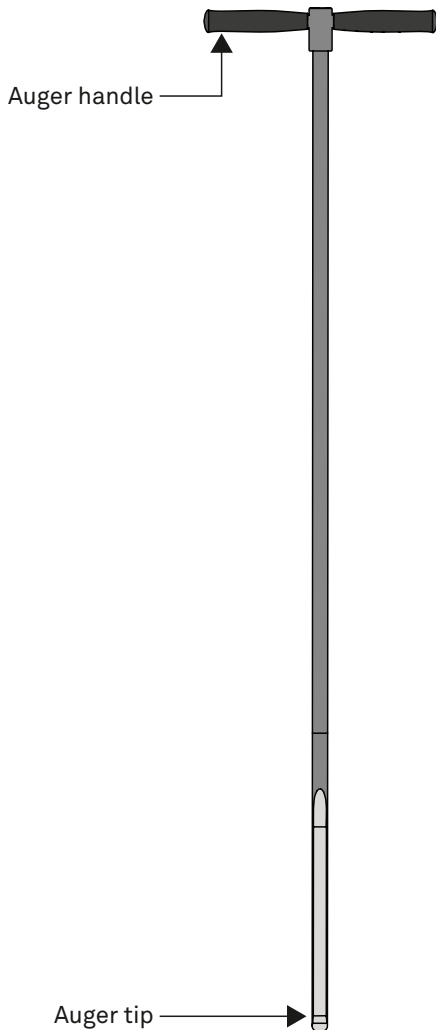

Figure 2 TEROS 54 auger
- The TEROS 54 auger is shaped to prevent soil compaction near the probe elements (Figure 2).
1. Assemble the auger using the handle and auger tip (Figure 2).